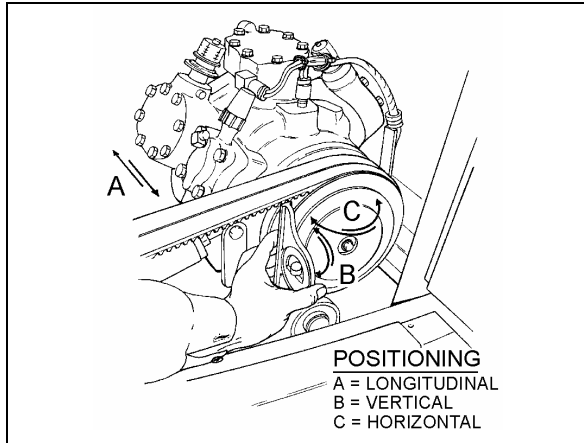

FIGURE 21: COMPRESSOR ALIGNMENT 22072
1. Rest an extremity of a straight edge of approximately 46 inches (117 cm) against the upper part of the outer face of crankshaft pulley, positioning the other end close to the compressor clutch pulley (Figs. 21 & 22).
Rest a short "angle and level indicator" on the outer side face of the crankshaft pulley, adjust the level indicator inclination at 0° and check if the compressor pulley is at same angle (Fig. 21). If it is not the same, shim under the appropriate pillow block in order to obtain the correct angle.